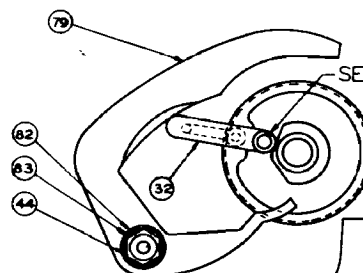
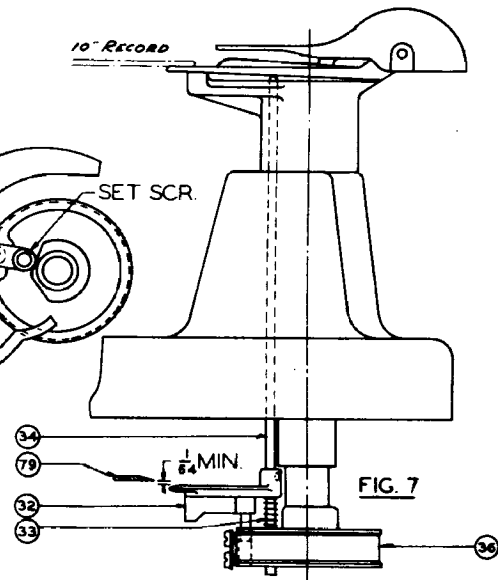

FIG. 6
FIG. 7
First be sure that spring tension on spring (33) is strong enough to lift the center blade raising pin (34) properly and fully, but not so strong that one 10" record will not fully depress pin and lever (See Fig. 7). Then, with set screw loose in no-record selecting lever (32) (See Fig. 6) and pin held down by weight of one 10" record, slide no-record selecting lever (32) into position so that it will just clear under lower edge of the lower cam setting lever (79) by approximately 1/64" clearance (See Fig. 7). Then tighten set screw and check adjustment with and without a record, also be sure that without a record, the fin on no-record selecting lever (32) swings above cam setting lever (79) and portion of lever (32), indicated by arrow on Fig. 7, sweeps stop lever on cam setting lever into position shown in Fig. 15.
(Figs. 7 & 10)